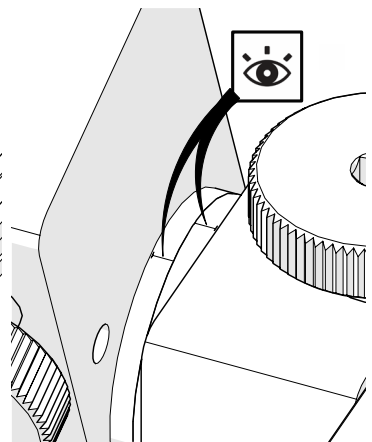

Fig. 104 - Line up markers
5. To return the longitudinal adjustment to neutral (90°). Line up the longitudinal adjustment indicator markers (*Fig. 104*).